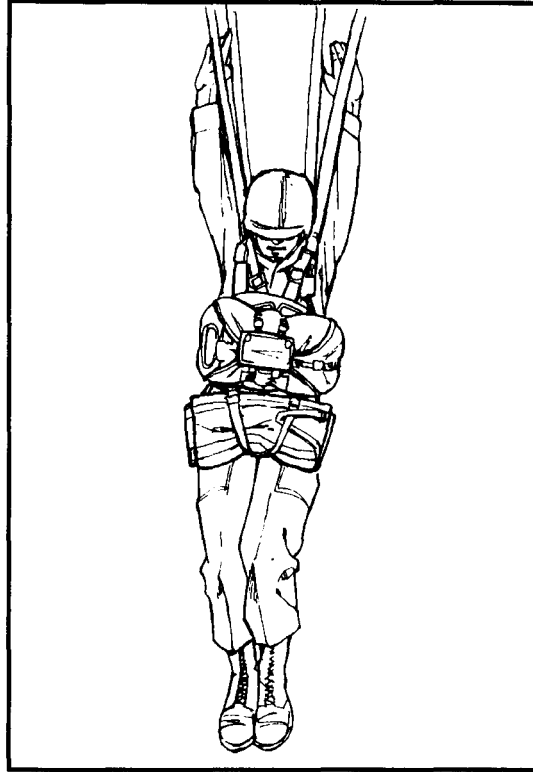

Figure 3-5. Wire landing attitude.
(3) **High tension wire landing.** The parachutist does the following if unable to avoid high tension lines when landing (Figure 3-5):